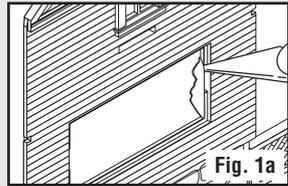

Fig. 1a
- Remove mold flash from Wall Sections, Roof and Details using a hobby knife and sandpaper (**Fig. 1a**). Make sure placement holes and grooves in Wall and Roof Sections are free of mold debris. Do not remove Details from sprues at this time.